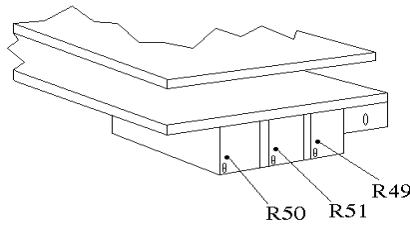

Fig. 8.3.3. Location of Calibration screws on bottom PCB.
6. Place the instrument on a calibration tile and hold down the green READ button. Use a small screwdriver to adjust the internal calibration screw(s), located at the left hand end of the bottom PCB (fig. 8.3.3). The appropriate screw is determined using the table below. Please note that R49 is not found on dual angle glossmeters, and neither R49 nor R50 is found on single angle glossmeters or reflectometers.